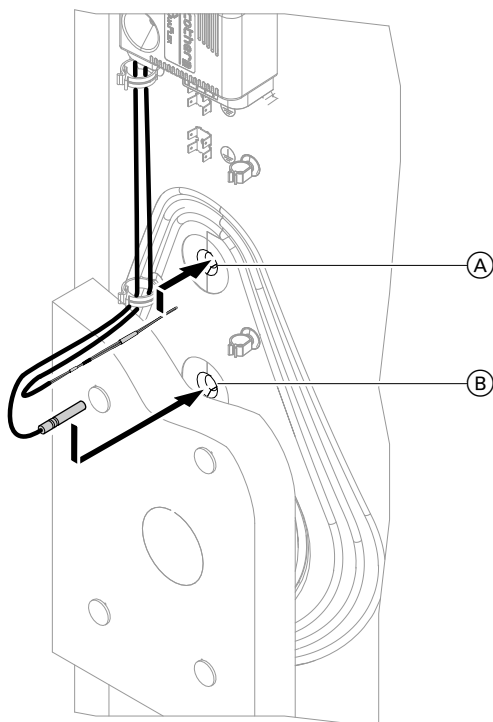

Fig. 19
If there is high demand for DHW, it is possible to change the draw-off profile from L to XL. To do this, the cylinder temperature sensor fitted at the factory is removed from sensor well (A) and fitted in sensor well (B); see Fig. 19